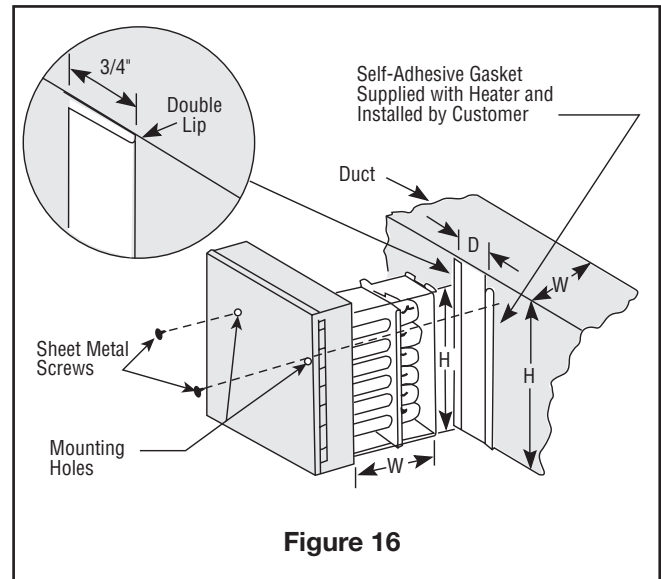

Figure 16
NOTE: Insert or slip-in type duct heaters are designed to be inserted into existing duct and require a rectangular hole of proper size to be cut. The heater frame is manufactured with a specified duct height (H in figure 16) and a standard depth (D in figure 16). If the frame does not match the specified dimensions contact a Chromalox representative.
1. Measure the height and width of the heater frame and note (H and D per figure 16).